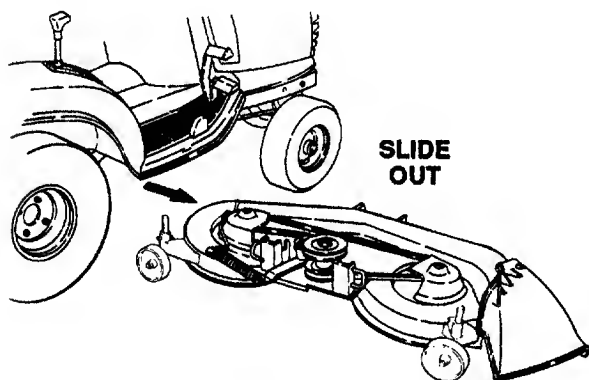

Figure 45
3. To ease sliding the deck out from under the tractor, the rear gauge wheels may be repositioned as shown in Figure 45. To reposition the gauge wheels, remove the quick-release pins and rotate each wheel inward 90 degrees. Reinstall the quick-release pins to secure both rear gauge wheels in their uppermost positions so the deck is in the lowest position possible relative to the ground.
13. With the tractor implement lift handle raised to its highest setting, slide the deck to the right and out from under the tractor (Refer to Figure 45).